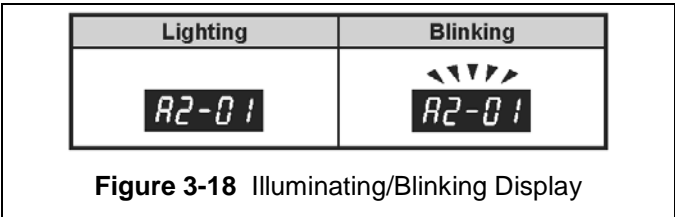

Figure 3-18 Illuminating/Blinking Display
3.8.9 During operation the data display will exhibit illuminating or blinking data as shown in Figure 3-18.